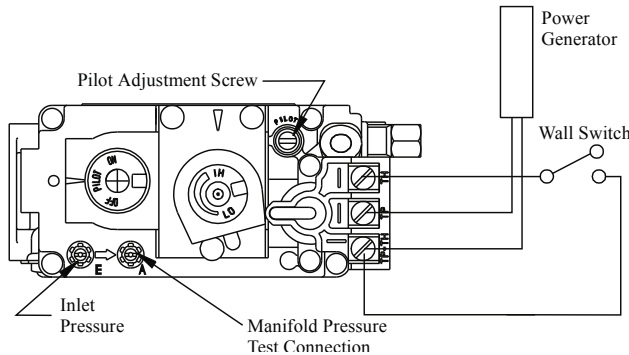

Figure 33. Sit Nova 820 gas valve.
1. Locate Pilot Adjustment Screw. (See figure 33.)
Pilot won't ignite	Disconnect remote wires and try to light pilot. If pilot now works, remote connections are faulty. Check wiring diagram figure 33.
Main burner will not light	<ol style="list-style-type: none"> <li>1. Check wiring (see figure 33).</li> <li>2. Check wall switch for proper connection.</li> </ol>